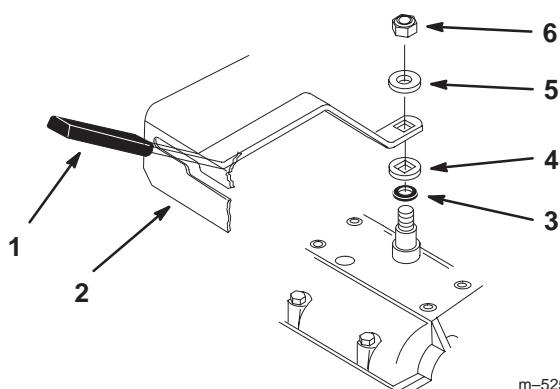

Figure 4
- Slide shift lever through control panel and align mounting hole in lever with square on transmission shaft. Secure lever to transmission with previously removed spring washer and locknut (Fig. 4).
- Install the spring washer, dish down, and locknut (Fig. 4).